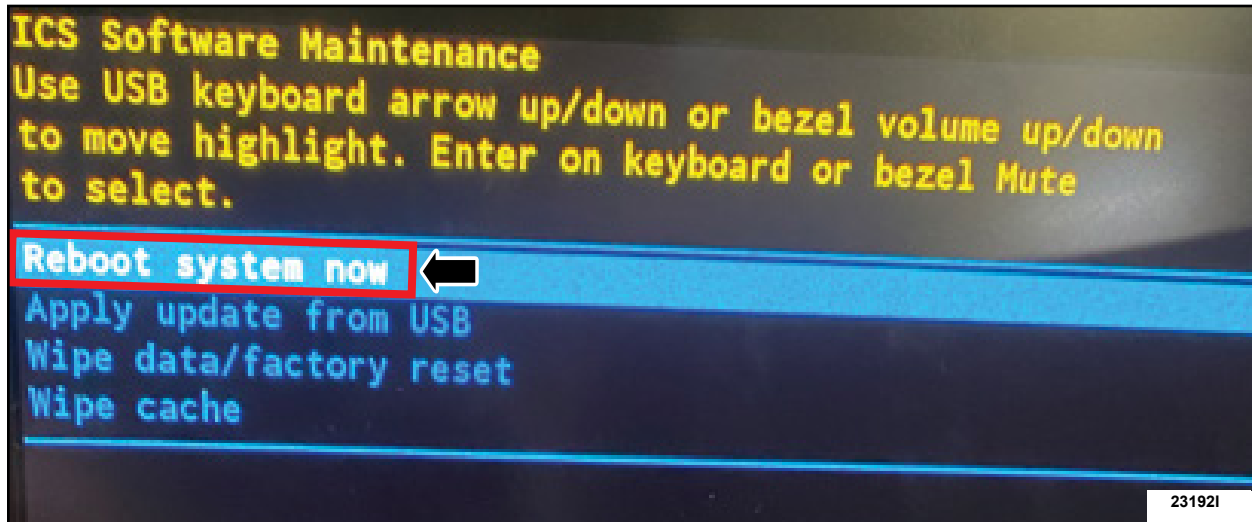

FIGURE 9
- Using the volume up and down buttons, highlight **Reboot system now** and select by pressing the mute button. See Figure 9. The display will now reboot with the updated software.